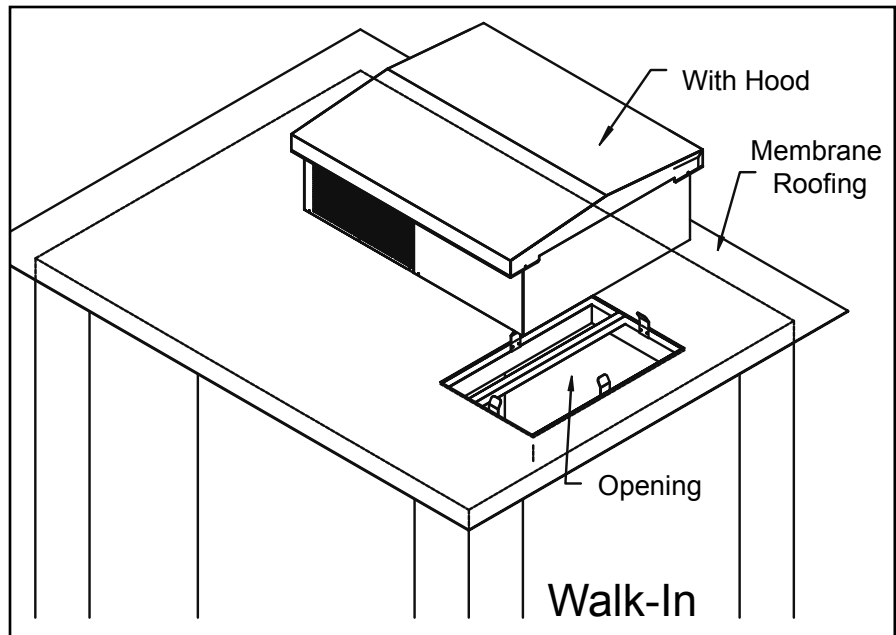

Figure 3
- Set the Refrigeration System over the opening in the curb. Remove the enclosure from the condensing unit portion of the system and drill two 9/16" holes through the condensing unit base plate, membrane roof material and the foamed ceiling section. The holes should be located on opposite sides of the unit. Insert one 1/2" threaded nylon rod into each hole. Apply silicone sealant around each nylon rod and hole and place one washer and nut on the condensing unit end of each threaded nylon rod. Place a second washer and nut on the inside of the walk-in and tighten securely. Replace the enclosure and attach the outdoor hood with the drive screws provided. Refer to Figure 3. The nylon rods, washers, and nuts are provided.